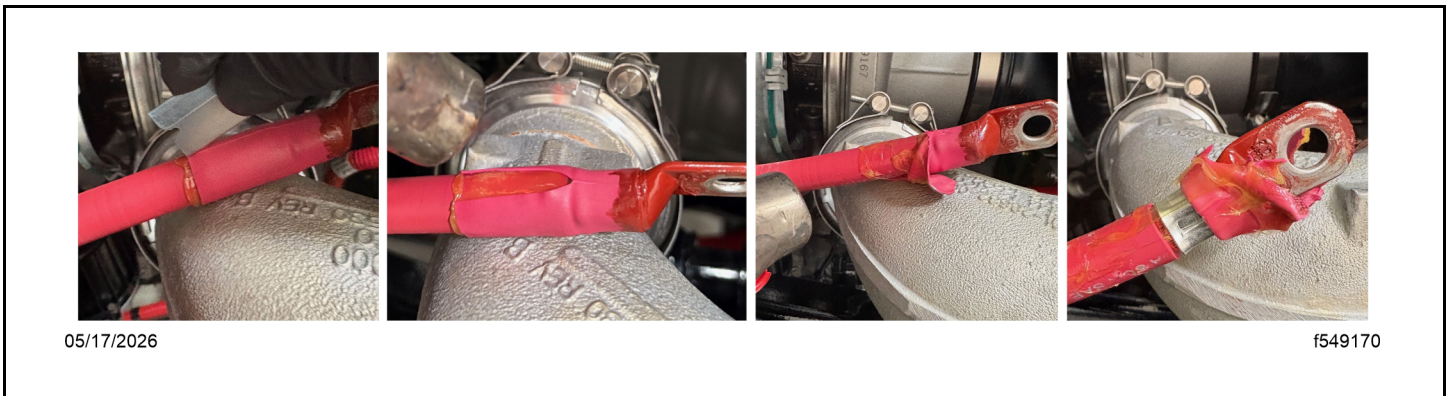

Fig 36, Heat Shrink Removal
- b. Remove the original heat shrink. To do so, heat it, score it, and continue to heat it until the score splits and the adhesive softens. See Fig. Fig. 36.